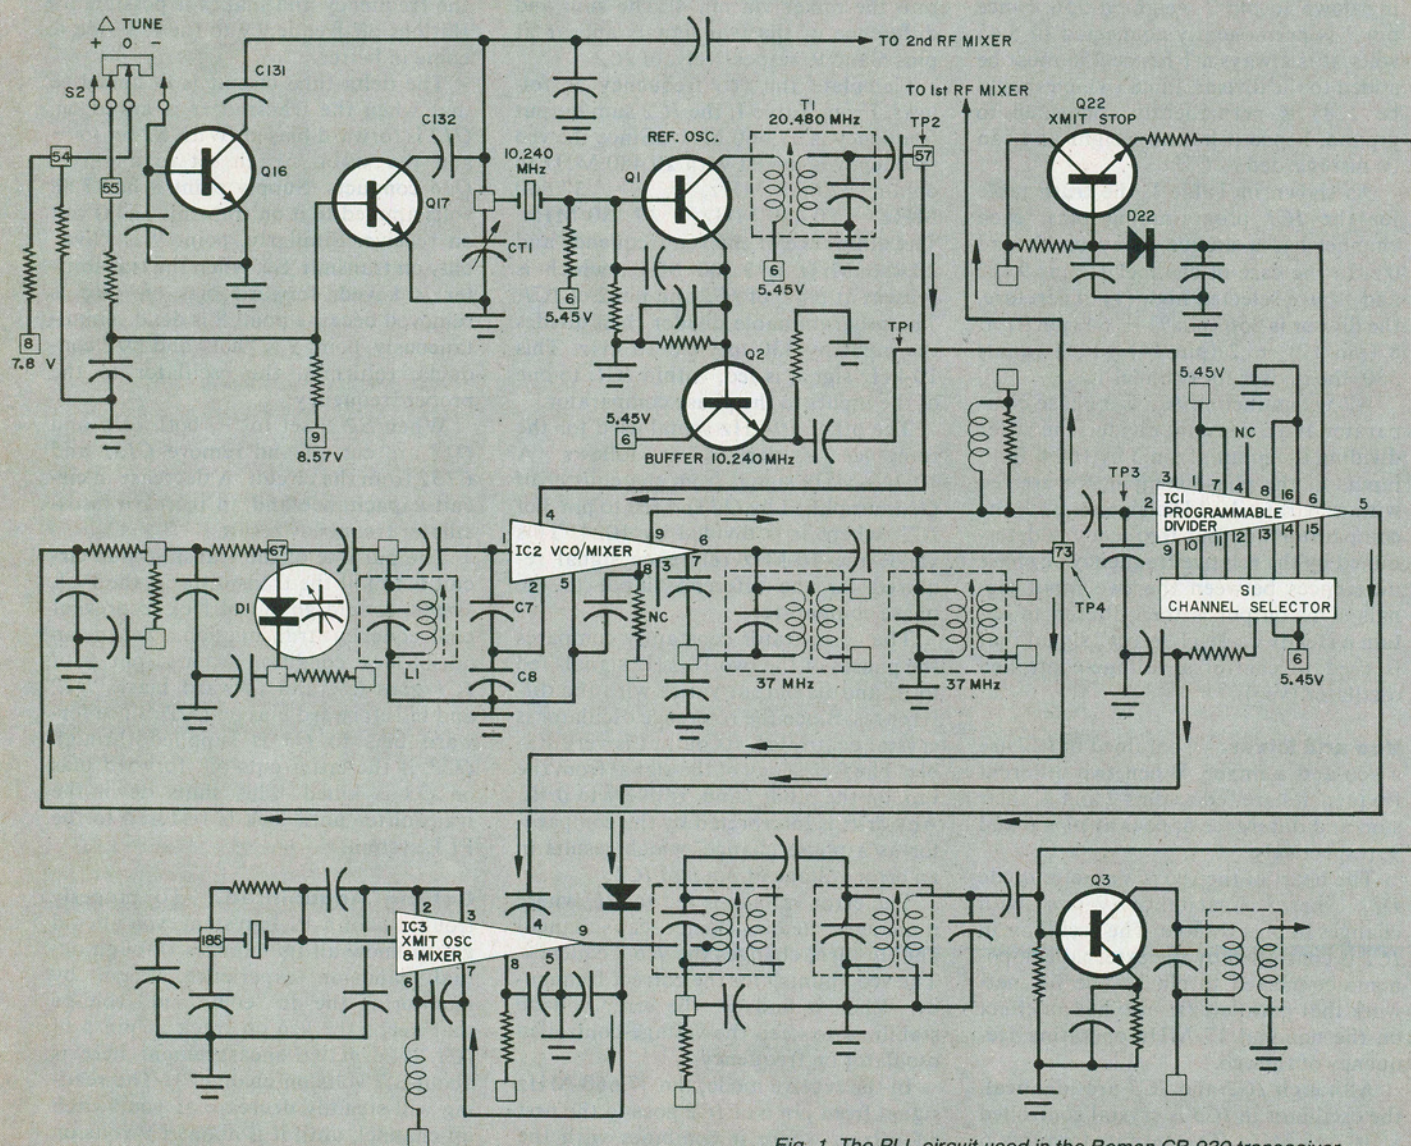

Fig. 1. The PLL circuit used in the Boman CB-930 transceiver.
**Actual PLL Circuit.** Shown in Fig. 1 is an actual circuit commonly used in many CB transceivers. The one shown here appears in the Boman Model CB-930 transceiver. The total system, including delta-tune and transmit-stop circuits, is composed of five transistors and three integrated circuits. The small boxes in Fig. 1 are used to indicate interconnections to other circuits within the overall system.
**Detailed Analysis.** Let us use channel 1 (throughout this article) to analyze system operation. Refer to both Fig. 1 and Table I. Since pin 7 (not listed) is always high, its weight of 256 must be added to the final tally to obtain the divisor on all channels.
Due to instrument loading effects, very few frequency-counter readings are possible around the PLL. When the test probe is touched to pins 1, 2, 4, and 6 of *IC2*, PLL operation will cease. The 3.300-MHz mixer output at pin 9 is the only frequency you will be able to measure on *IC2* (on channel 1). However, you can measure 10.240 MHz at the emitters of *Q1* and *Q2* and at pin 3 of *IC1*. You can also measure 3.300 MHz on pin 2 of *IC1*. On *IC3*, you can measure the signal frequency at pin 9 with the transmitter keyed, but the transmitter's output will cease every time the probe tip is touched to pin 9. If you use a frequency counter with a top end of 50 megahertz or greater, you can even measure 37.660 megahertz at *TP4* (point 73 in Fig. 1).